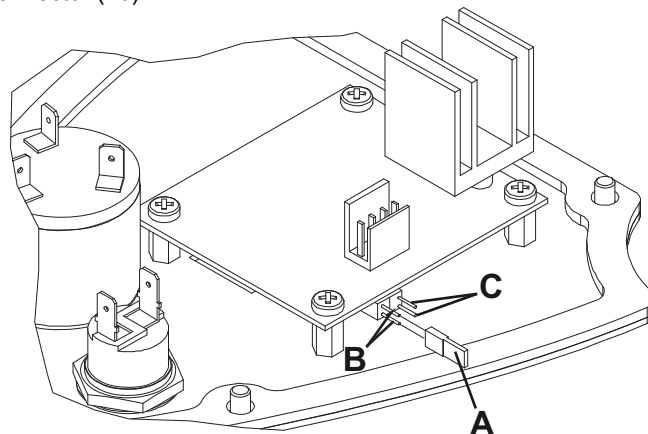

Figure 1
- Disconnect the battery connector (45).
- Remove the screws (83) and carefully remove the right control panel (84).
- Remove the jumper wire (A, Fig. 1) from WET connectors (B) for lead batteries, and connect it to GEL connectors (C) for gel batteries.
- Carefully install the control panel (84) and the relevant screws.
- Reconnect the battery connector (46).